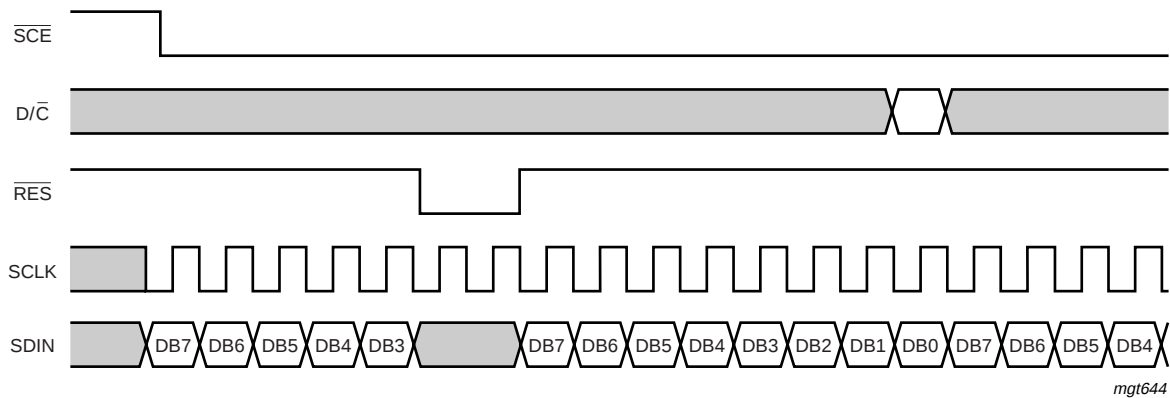

Fig.11 Serial interface reset ($\overline{RES}$).
- If pad $\overline{SCE}$ stays LOW after the last bit of a command or data byte, the serial interface expects bit DB7 of the next byte at the next positive edge of SCLK (see Fig.11). If pad SCLK goes LOW after the last data bit (bit DB0), either:
- A reset pulse $\overline{RES}$ interrupts the transmission. No data is written into the RAM and the registers are cleared. If pad $\overline{SCE}$ is LOW after the positive edge of pad $\overline{RES}$, the serial interface is ready to receive bit 7 of a command or data byte as shown in Fig.11.